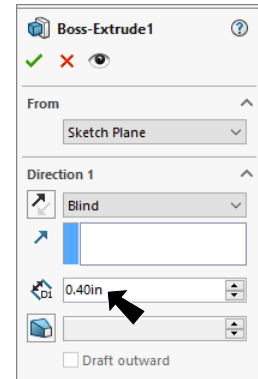

Fig. 17
Step 2. In the Boss-Extrude Property Manager set: under Direction 1, **Fig. 17**